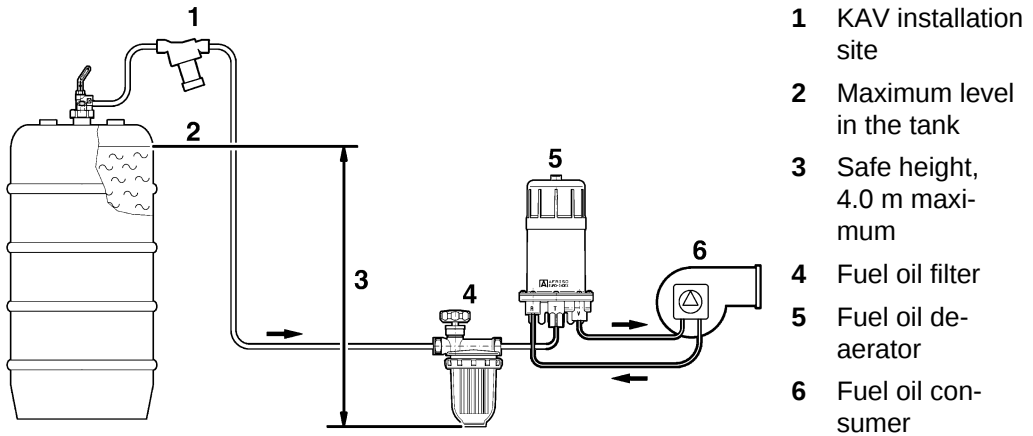

Fig. 5: Safe height = height difference between maximum level in the tank and lowest point of the oil-carrying pipe
1. Determine the safe height as per fig. 5.